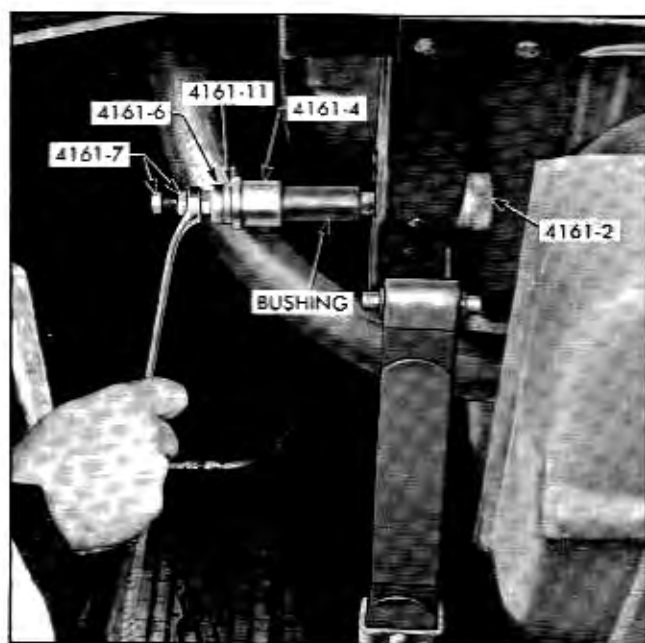

Fig. 4-54 Bushing Replacer Tool J-4161-A Positioned for Installation of Rear Bushing
c. Center bushing on one side and adapter 4161-2 on opposite side of hole in spring hanger; turn hex nut of 4161-7 (Fig. 4-54) until bushing is forced into place so bushing pin projects equally on each side of frame hanger.